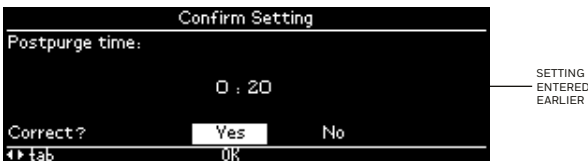

Fig. 74. Confirm postpurge time
- Valve Proving (VP) when confirmation (when BC model supports valve proving) – see next figure
- Postpurge time confirmation (when BC model doesn’t support valve proving) – see Fig. 74
- Valve Proving (VP) time confirmation (VP when setting is not disabled) – see next figure
- Postpurge time confirmation (VP when setting is disabled and postpurge time has been configured) – see Fig. 74